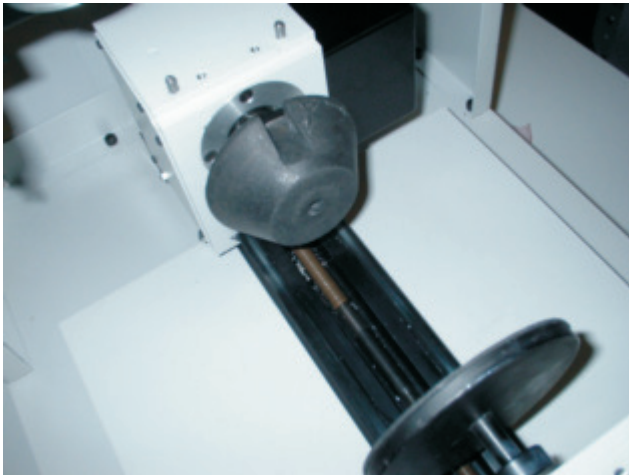

Figure 9
- 8 These should now be in the vice system, as shown in Figure 9.